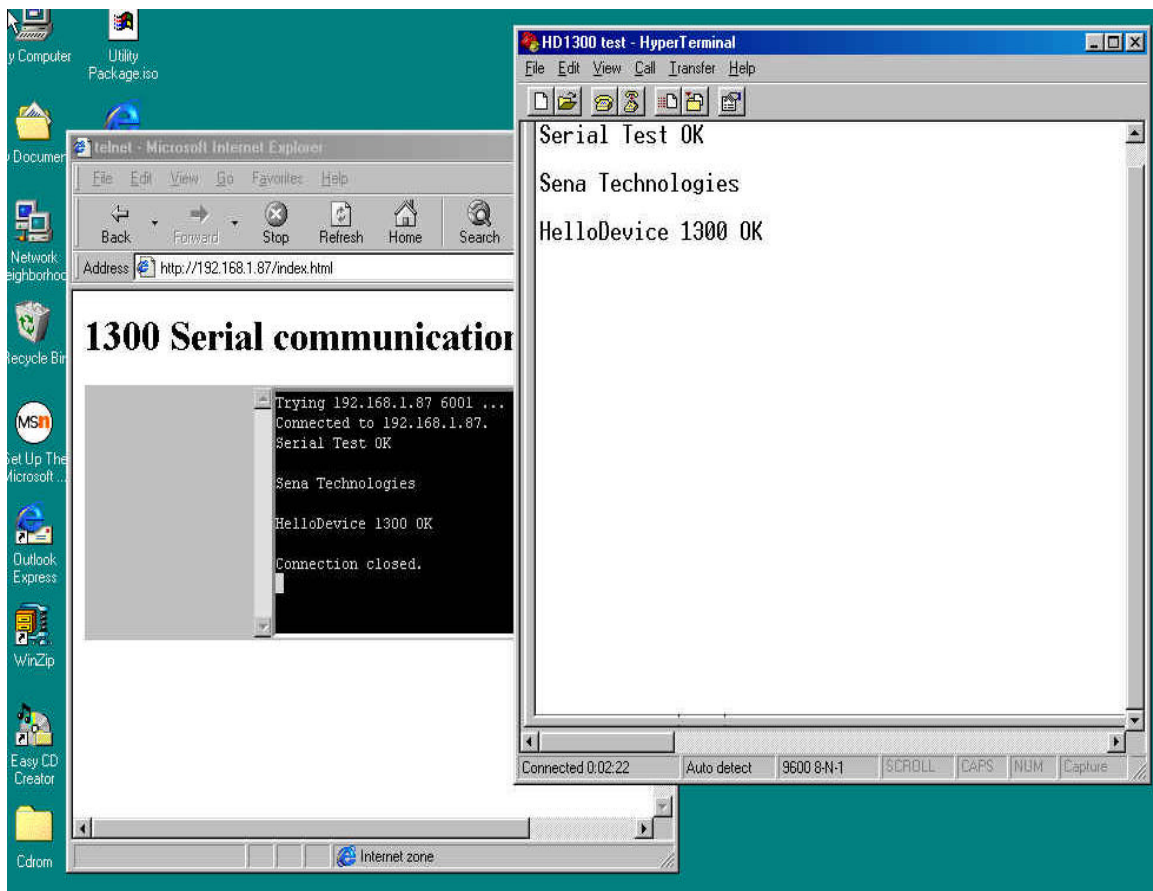

Figure 5.12 Ethernet/Serial conversion demo between the HelloDevice and user PC
(3) After uploading has been completed, run the web browser to go to <http://192.168.1.15/index.html> page.
If the web page in figure 5.12 is not displayed, retry the (2) procedure.
(4) Test serial communication functionality of the HelloDevice.